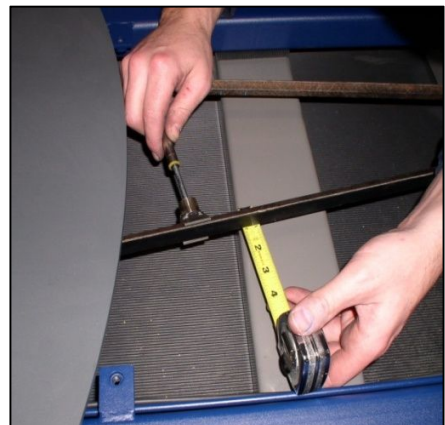

Figure 7.9
2. Measure the belt tension (force gauge and tape measure). Measure the tension at the edge of the turntable (Figure 7.9). If the tension is correct, replace the guard.